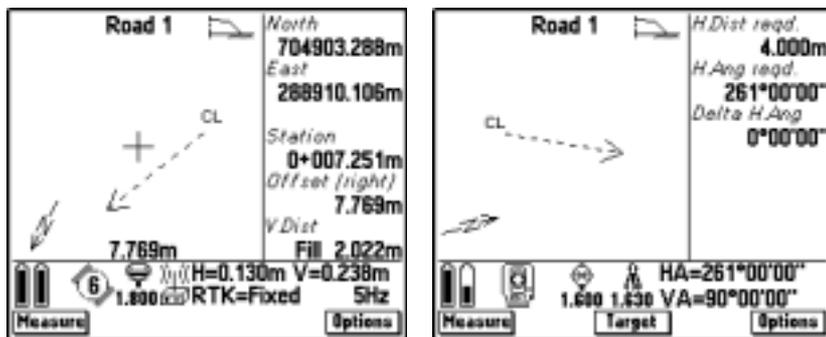

Figure 18.20 Position on road graphical display screens
9. Press . Figure 18.20 shows the Position on Road Graphical Display Screen that appears. It shows your position relative to the road. If you are using a conventional instrument, refer to the screen on the right.